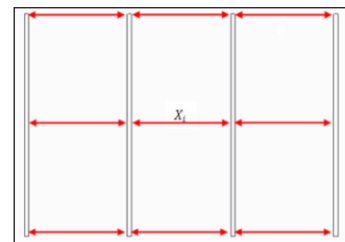

Figure 13: Vertical Level Verification (Front View)
- Inspect the level of the vertical sections by taking measurements of the horizontal intervals between vertical columns. Use at least 3 horizontal measurements equally spaced. Refer to Figure 13. If possible, adjust the structure or plan ahead for section adjustments while installing the display sections if the difference between any two measurements X_i exceeds 5 mm.